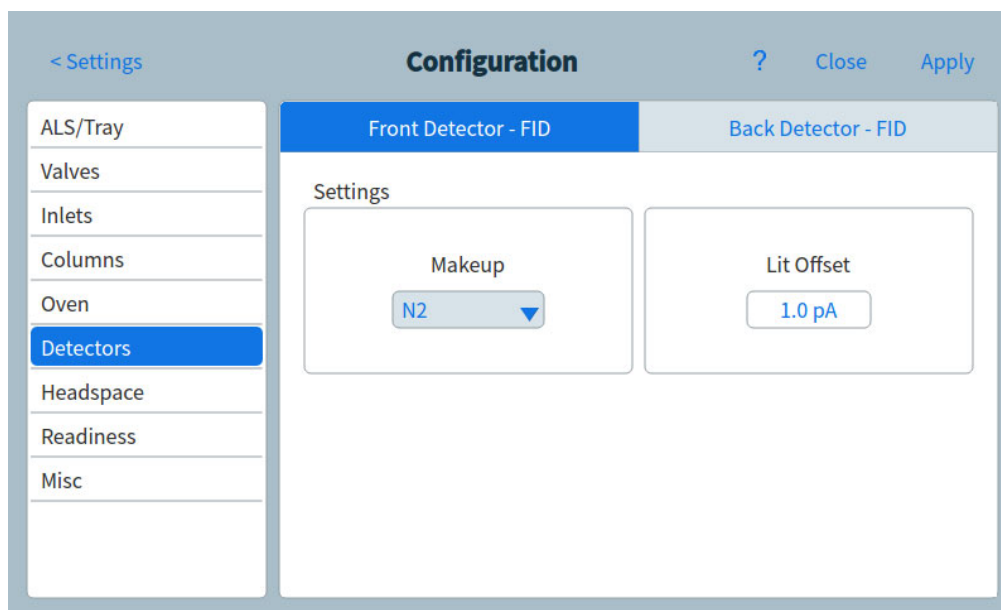

Figure 61. Detectors page
- 1 Select **Settings > Configuration > Detectors**, then select the tab for the detector to configure. See **Figure 61**.